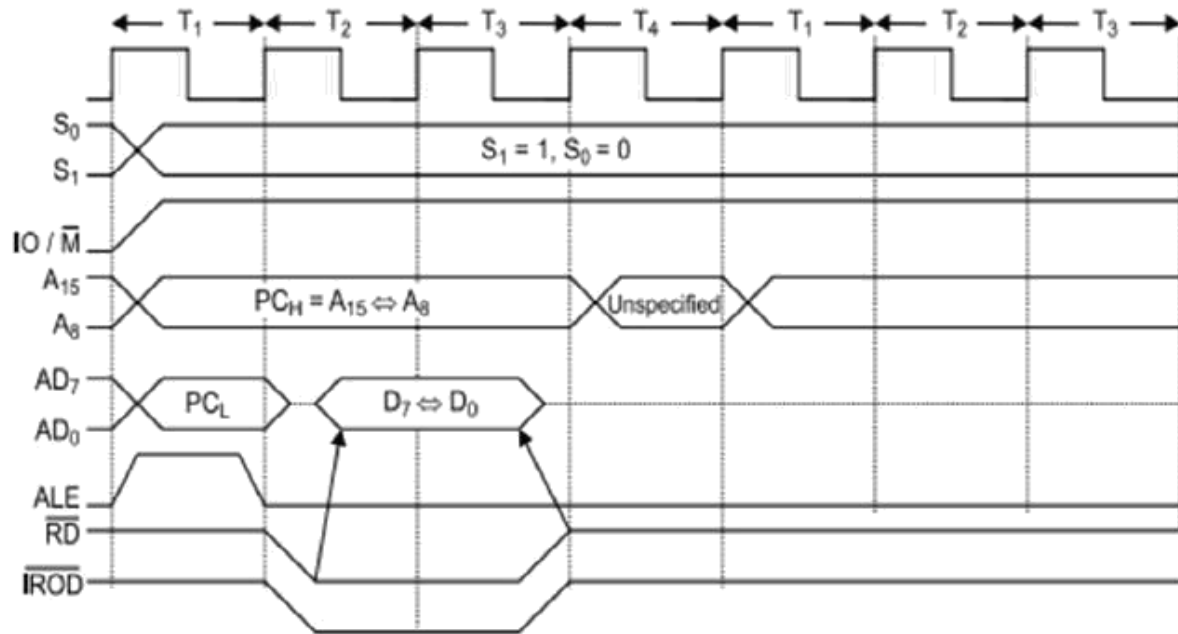

Fig 13.IO Read timing diagram
- During T1, The Lower Byte of IO address is duplicated into higher order address bus A8-A15 as in fig13.